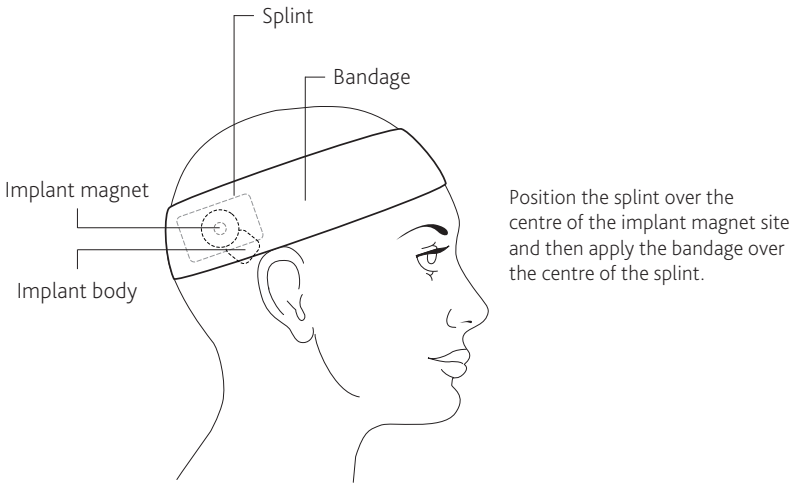

Figure 6: Fitting the MRI Kit splint and compression bandage
2. Use the elasticised compression bandage from the MRI Kit and ensure the centre line of the bandage is over each implant magnet site and the splint is fully covered. See **Figure 6** below.